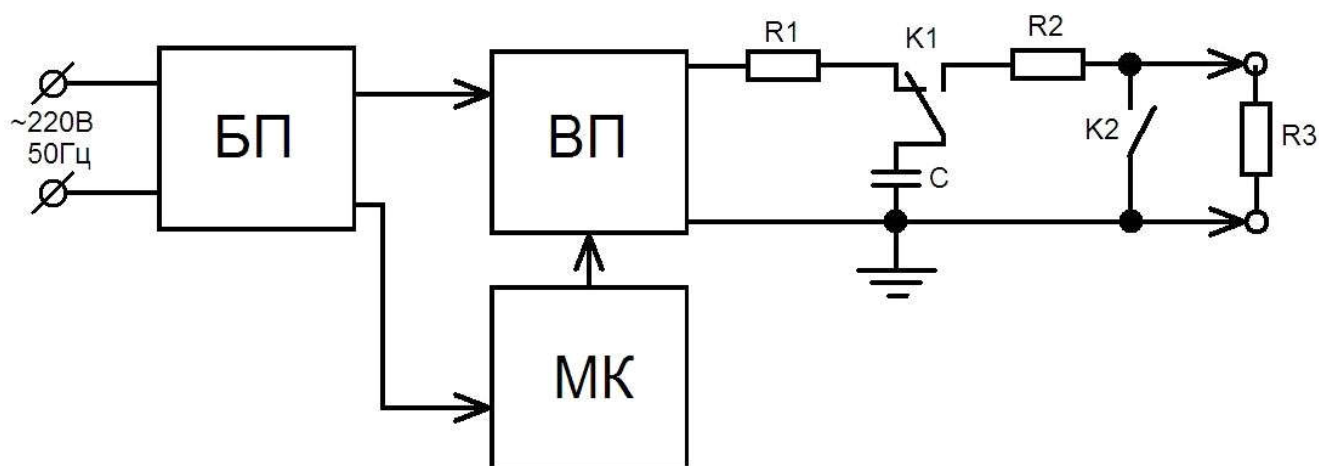

Fig. 1 The functional chart of the test generator IGE 12m
4.1 The functional chart of the test generator IGE 12m is shown in Figure 1.